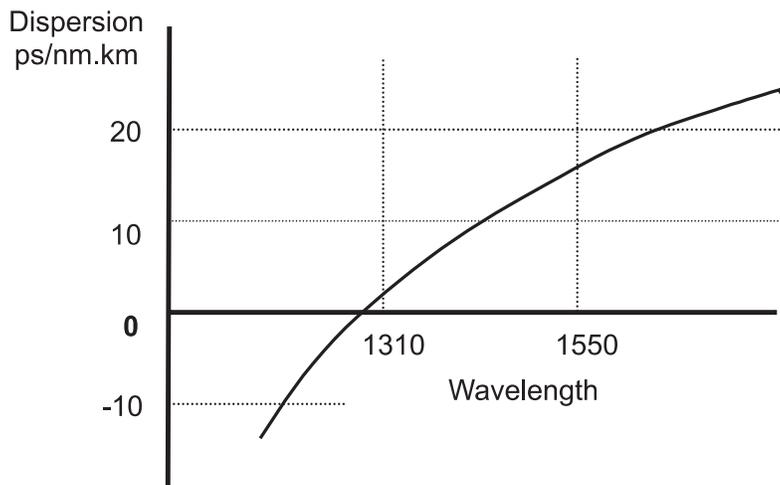

Fig 9. Chromatic Dispersion Slope for Standard Single Mode Fiber
Chromatic Dispersion (CD) at a particular operating wavelength, is measured in ps/nm.km. For standard Corning SMF-28 optical fiber this is around 2 for 1310nm and 17 for 1550nm (Fig 9).
The amount of chromatic dispersion experienced in optical fiber is dependent on the wavelength of the light being transmitted. This can be seen in Fig 9.